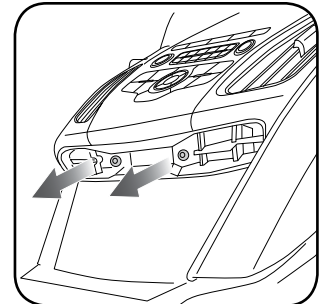

Fig. 1.4
4. Remove two (2) Torx T25 screws at the bottom of the bezel. (Fig. 1.4)